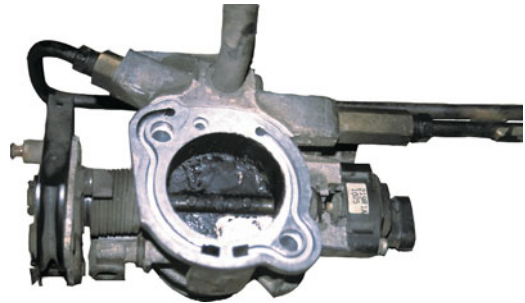

FIGURE 37-28 To thoroughly clean a throttle body, it is sometimes best to remove it from the vehicle.
5. **Clean the throttle plate and idle air control passages.** Doing this service alone on most late-model engines will show a manifold vacuum increase of up to 2 in. Hg. Stop the engine and clean the areas as needed, then use a handheld fuel injector connected in parallel with the pressure hose, along with a pulser to allow cleaning of the throttle plates with the same chemical as injectors are running on. ● **SEE FIGURE 37-28.** This works well as air is drawn into IAC passages on a running engine and will clean the passages without IAC removal.